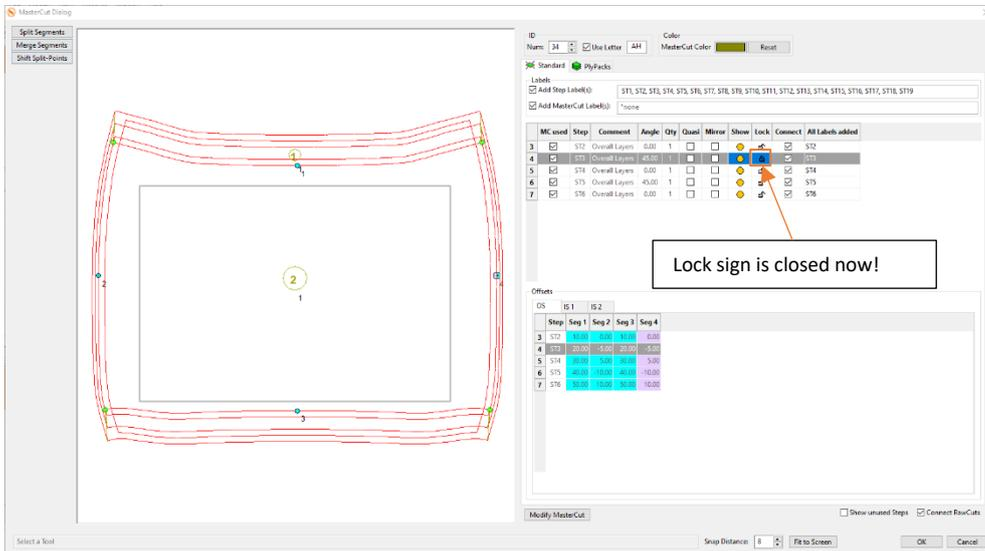

Figure 405
- Now we can see, that the RawCut of ST3 is indicated in grey. This tells us that this RawCut is locked and does not react to any changes of any offsets anymore. It will remain as it is, and it will be added to the MasterCut Output instead of the automatically generated RawCut. Further, also the lock sign is closed now (Figure 405), stating that the RawCut of this step is locked.